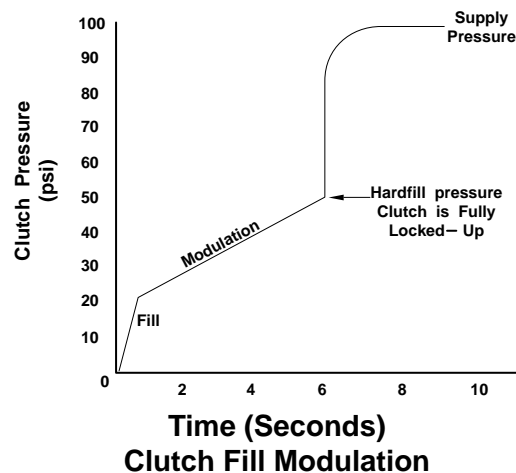

Figure 9
- The clutch engagement system incorporates a three stage clutch fill as shown in Figure 9.